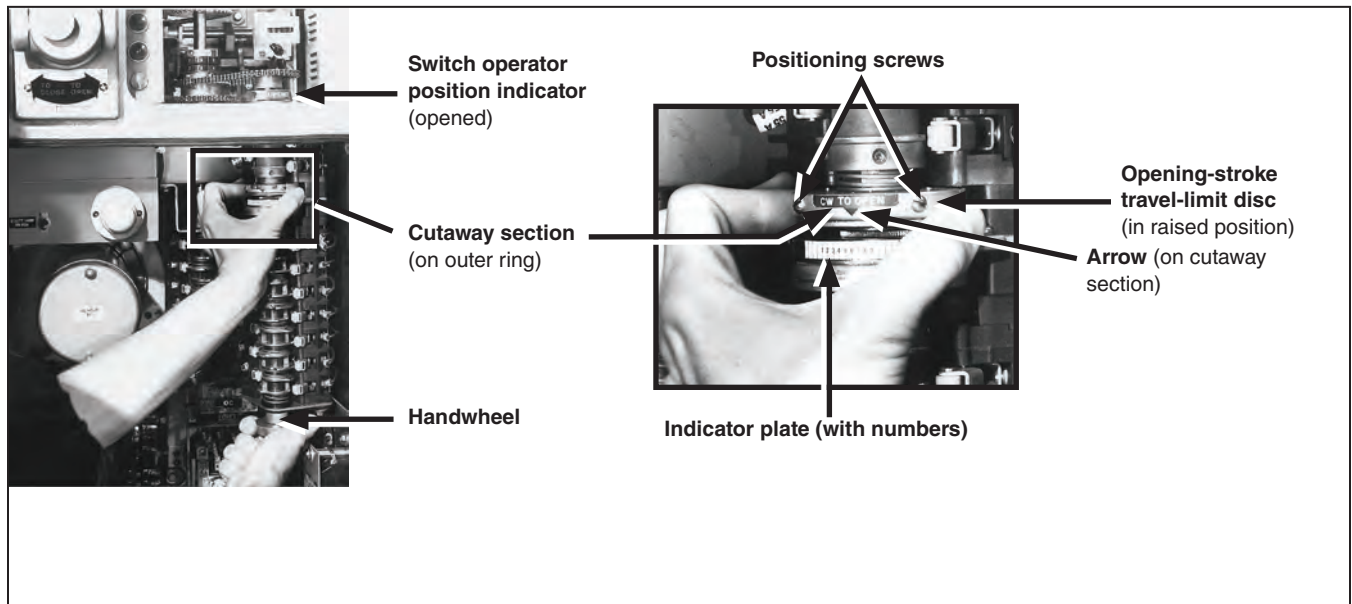

Figure 67. Adjustment of opening-stroke travel-limit disc.
- Grasp the handwheel and turn it to the extent possible in the direction opposite to the direction the output shaft rotates to open the disconnect. See Figure 67.